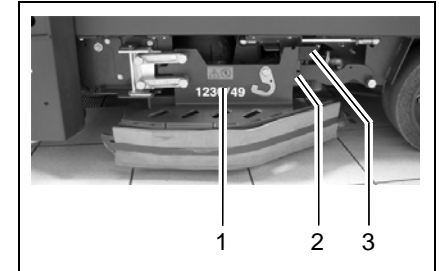

Fig. 5
Open the deflector (Fig. 5/1) before assembling or disassembling brushes and pads:
1. Take hold of the deflector (Fig. 5/1) by the grip (Fig. 5/3).
2. Raise the deflector (Fig. 5/1) and pivot outwards to the front.
3. Lower the deflector (Fig. 5/1) (service position).
1. Open the deflector (Fig. 5/1), refer to Section "Opening and closing the deflector".
- Close the deflector, refer to Section "Opening and closing the deflector". The deflector (Fig. 5/1) is now in its working position.
- Open the deflector (Fig. 5/1), refer to Section "Opening and closing the deflector".